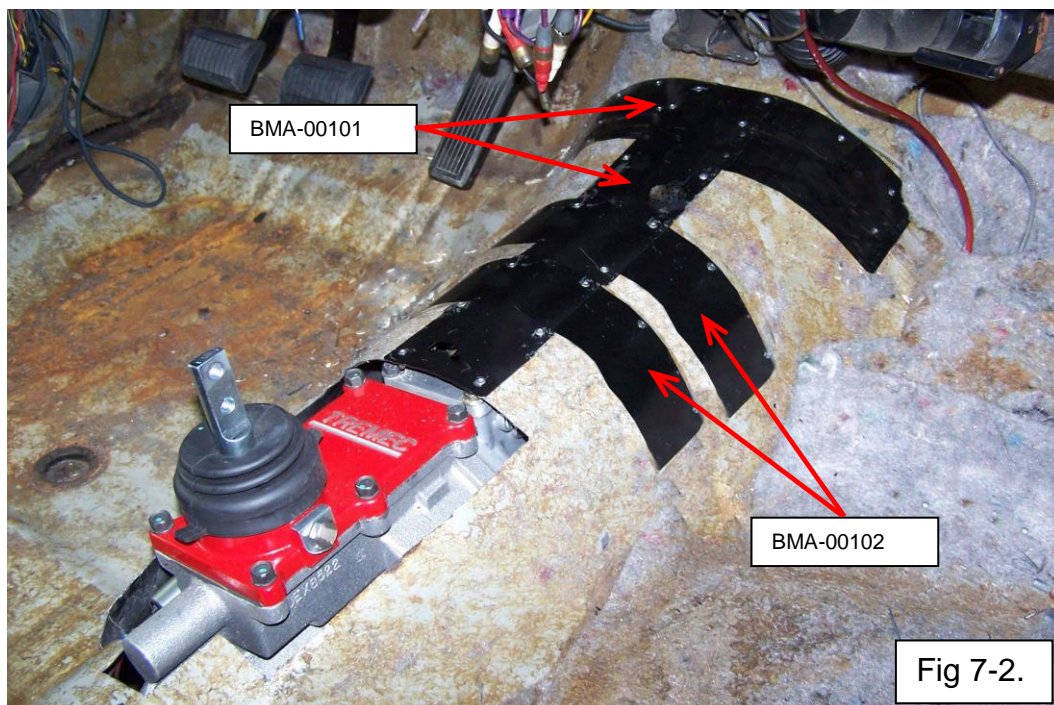

Fig 7-2.
13. With proper clearance now set on cut tunnel areas, install body metal supplied in kit to cover the tunnel openings. Install the (4) body metal pieces supplied with kit to tunnel with screws or rivets as shown in Fig. 7-2. Trim excess body metal to fit as needed. Paint exposed sheet metal surfaces for corrosion protection.